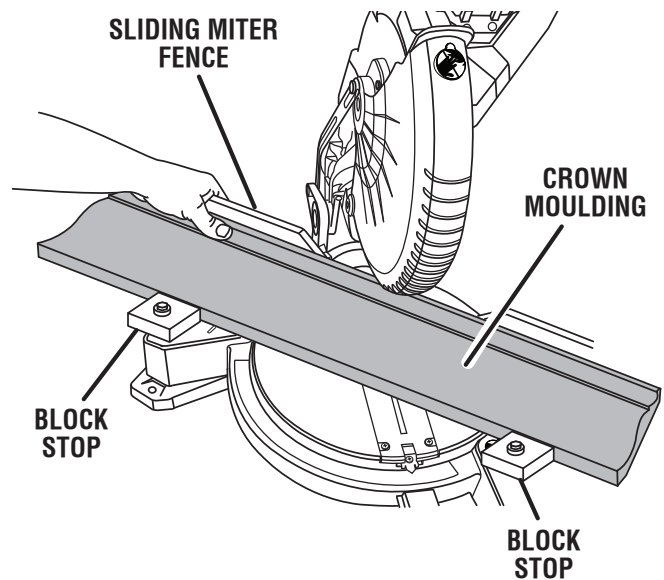

Fig. 35
- Hold the molding as shown in figure 35 with your hand on miter fence and molding.